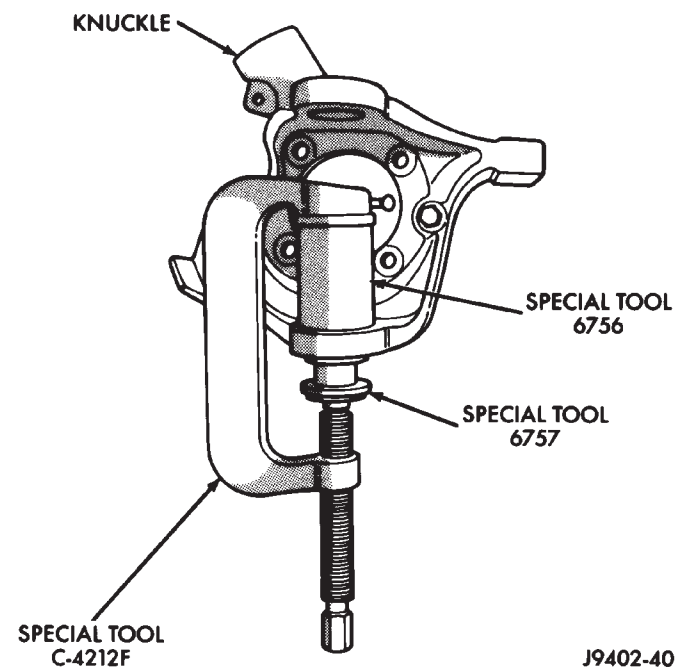

Fig. 26 Lower Ball Stud Remove
(2) Position tools as shown to remove lower ball stud (Fig. 26).